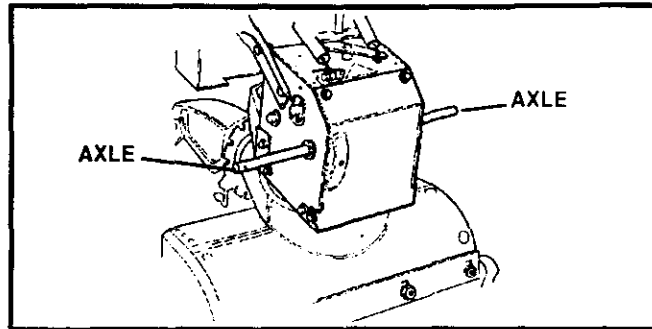

FIG. 1
- Remove both wheels, grease (any automotive type grease) both axles (See FIG. 1) and replace wheels. Do this at least once a year and/or prior to storage.